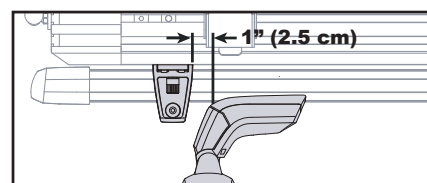

fig. 2
- ❑ Do not position the mounting hardware more than 1" outside of the Tower (see figure 2).